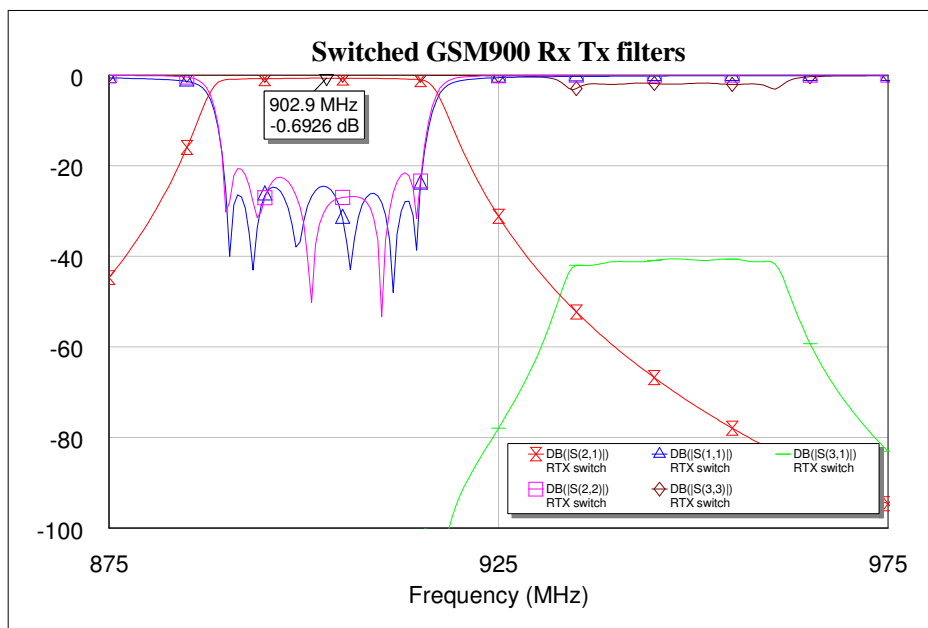
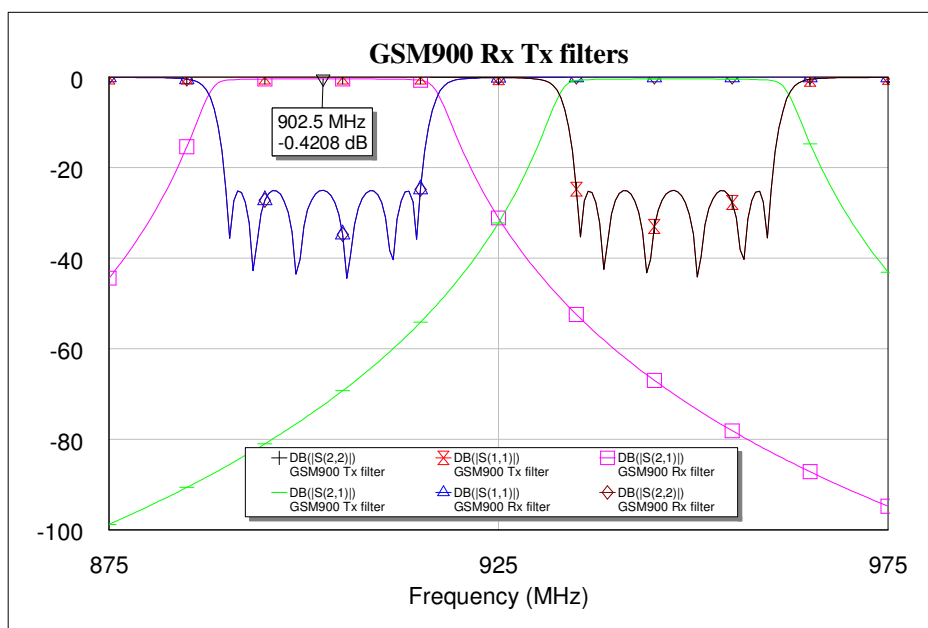

Figure 5
Figure 6
- Overall RF response is shown below in Figure 5 while the response of the filters by themselves is shown in Figure 6